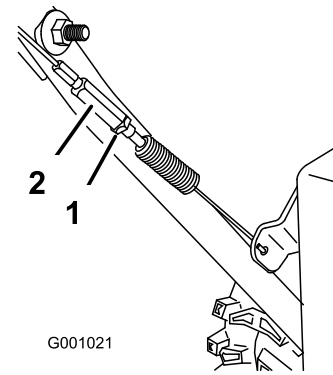

Figure 39
3. Tighten the jam nut (Figure 39).